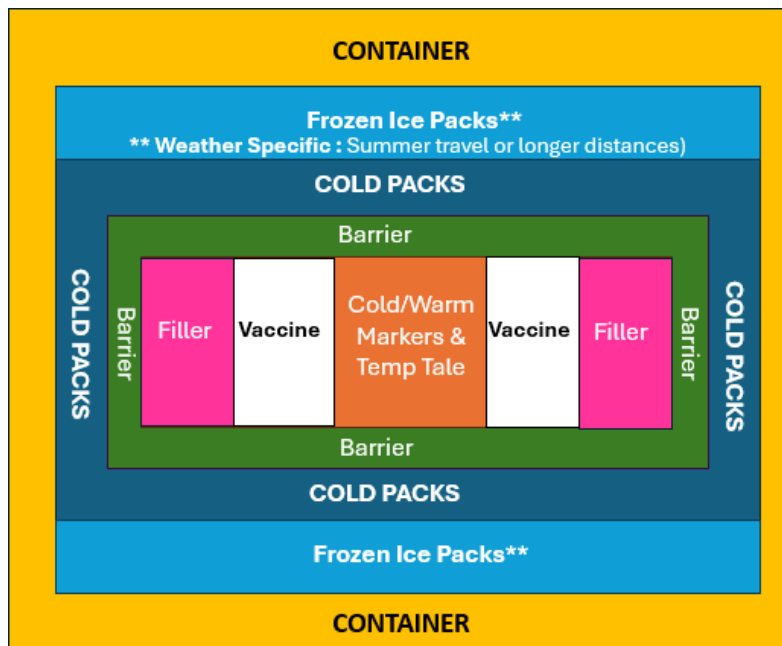

Figure 3. Example of Proper Standard Refrigerated Coolers Packing
2. Packing the vaccines (layering method) (See Figure 3 below):
- **See Figure 3.** Example of Proper Vaccine Cooler Packing